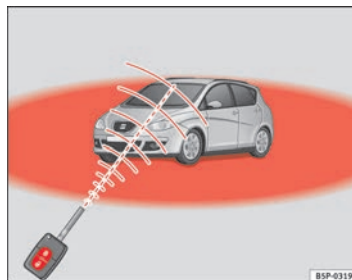

Fig. 65 Range of the remote control
- The remote control functions only when you are in range ⇒ page 107, fig. 65 (red area).